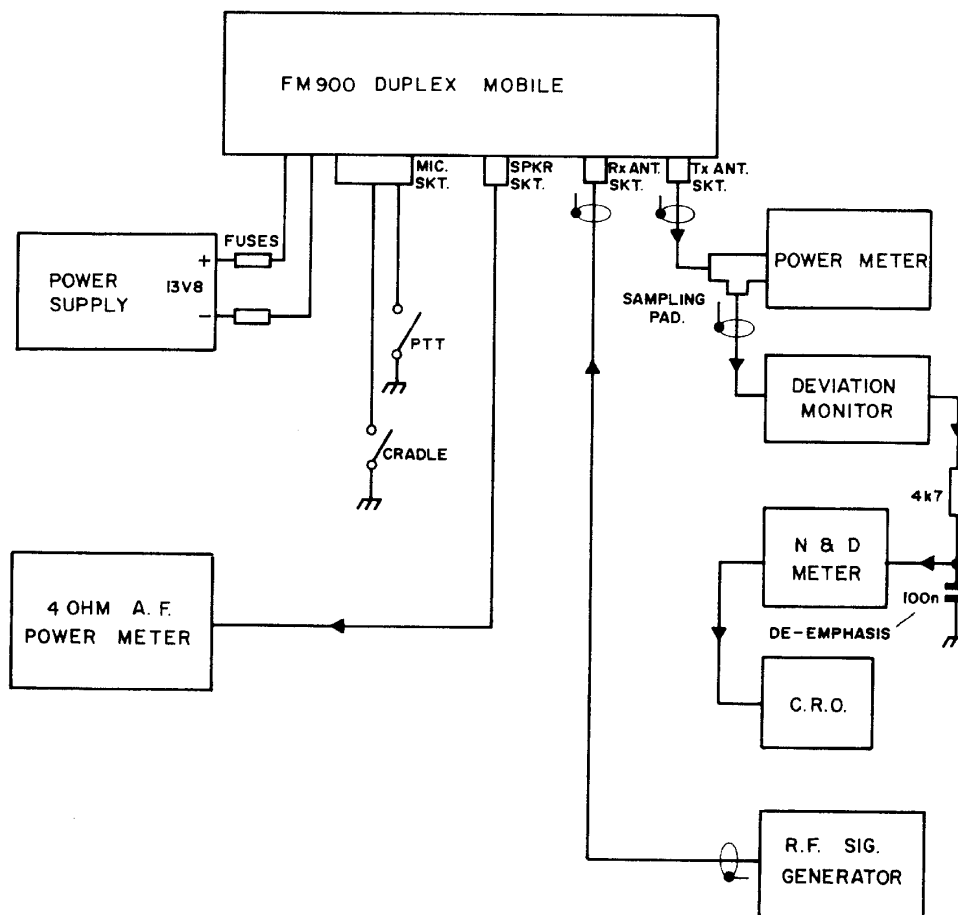

Figure 7.1 Equipment Set Up
- c) Connect mobile to test equipment as shown in Figure 7.1 above.